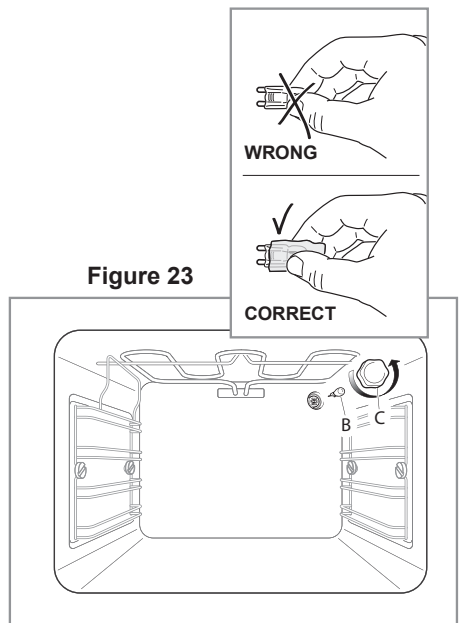

Figure 23
- Remove the protective cover "C" (fig. 23).